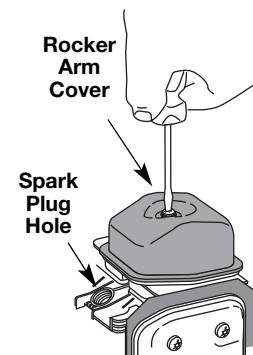

Fig. 36
10. Clean dirt from around the rocker arm cover. Remove the screw holding the rocker arm cover with a large flat blade screwdriver or Torx T-25 bit (Fig. 36). Remove the rocker arm cover and gasket.